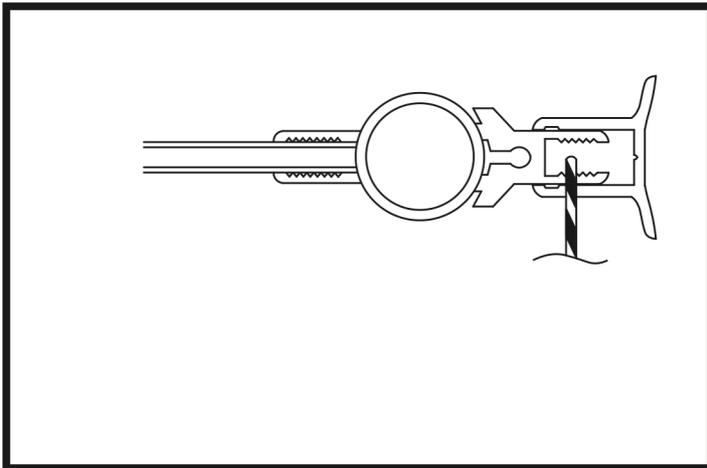

Figure 7
13. Begin by drilling the top hole, going through both the hinge profile and the hinge. Drill the holes carefully so that the drill only passes through one half of the profiles, not the entire product. (Figure 7)